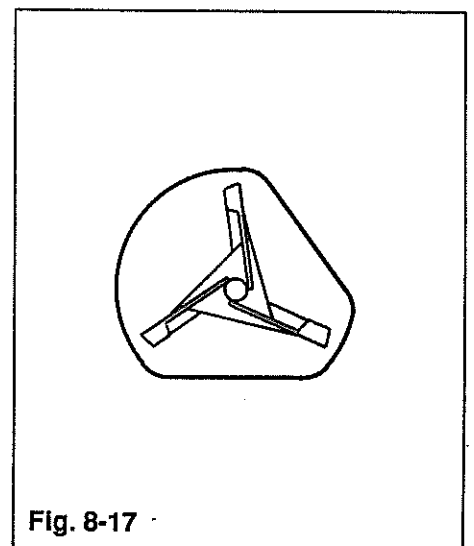

Fig. 8-17
10. Pull auger assembly Forward and out of housing. **NOTE: fan will have to be positioned so it will clear the housing (Fig. 8-17).**